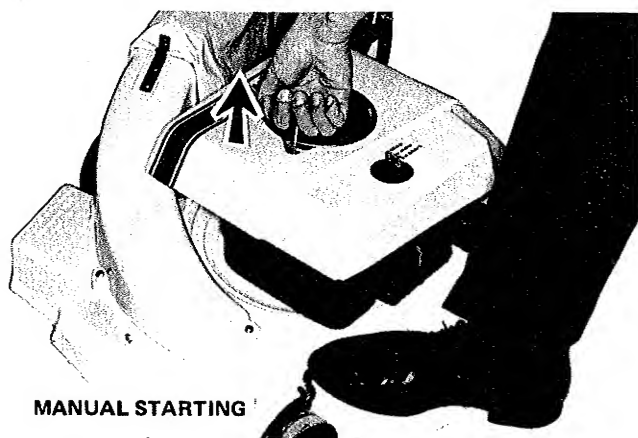

FIGURE 10
**MANUAL START MODELS:** Place your right foot on the mower deck where indicated. Keep your left foot well away from the mower. Grasp the starter handle firmly with your right hand and pull upward. Return the handle to the cover by hand. **DO NOT RELEASE THE HANDLE WITH THE ROPE EXTENDED.** (See Figure 10).